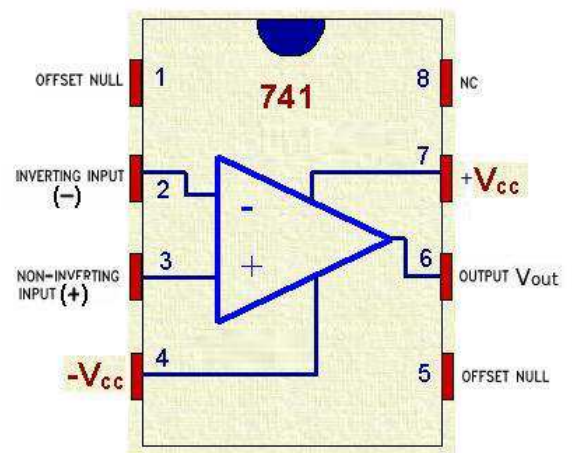

Figure 1
The operational amplifier is an integrated circuit (IC) that operates as a voltage amplifier, where the circuit symbol and the pin configuration of the OP-Amp IC is shown in Figure 1 (according to the datasheet for the OP-Amp 741). The Op-amp has high-gain and it is used with feedback connections for controlling by using passive elements. The term operational amplifier (OP-Amp) is from the original applications in analog computation that used to perform different mathematical operations (i.e. summation and integration).